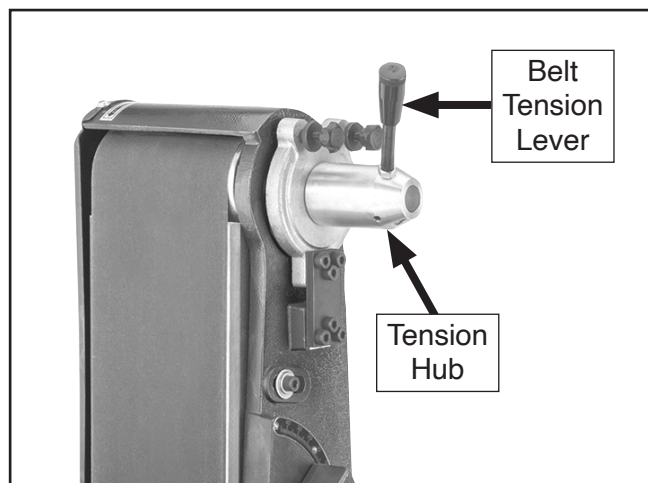

Figure 22. Belt tension lever threaded into tension hub.
16. Thread belt tension lever into tension hub, as shown in **Figure 22**.